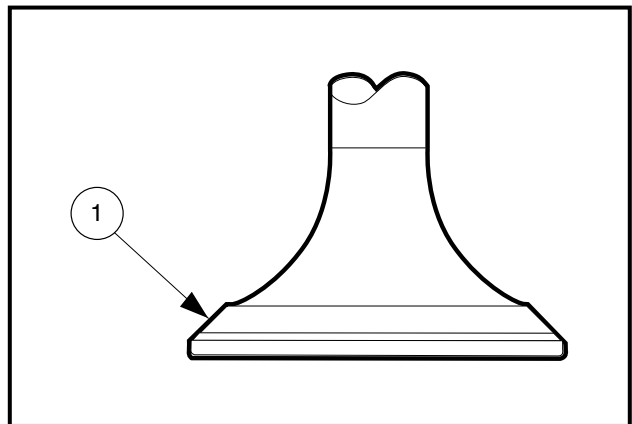

Figure 2-23 Valve Head Seating Area
1. Inspect the valve head seating area (1) for erosion, nicks and warping, etc. (**Figure 2-23, Page 2-13**).